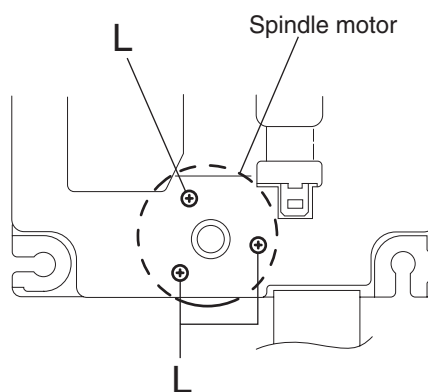

Fig.20
■ Removing the spindle motor assembly (See Fig.20~22)